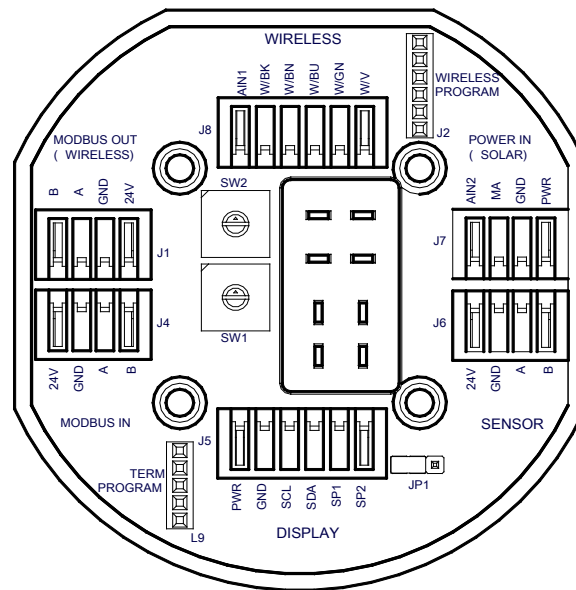

Figure 24 Model 100 Terminal Board
2. The wireless radio module connected to the Modbus™ master port is to be used with a Teledyne Detcon Smart Wireless battery pack. These units come with the Model 100 Terminal Board will be mounted in the conduit/J-Box (Figure 24). Refer to Table 1 for descriptions of the connector plugs.